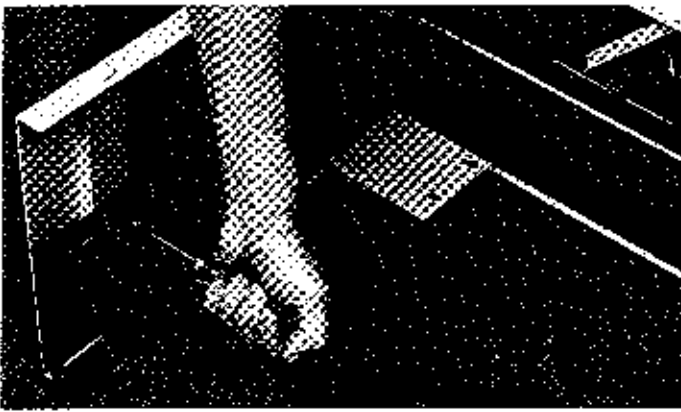
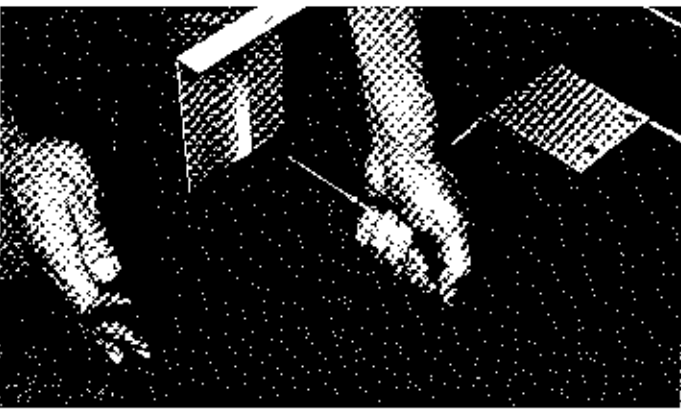

Figure 9.
Figure 10.
12. Remove the (4) screws from the cabinet kickplate and invert (see Figure 9). Position the kickplate to the cabinet mounting flanges and replace the (4) screws loosely (see figure 10).